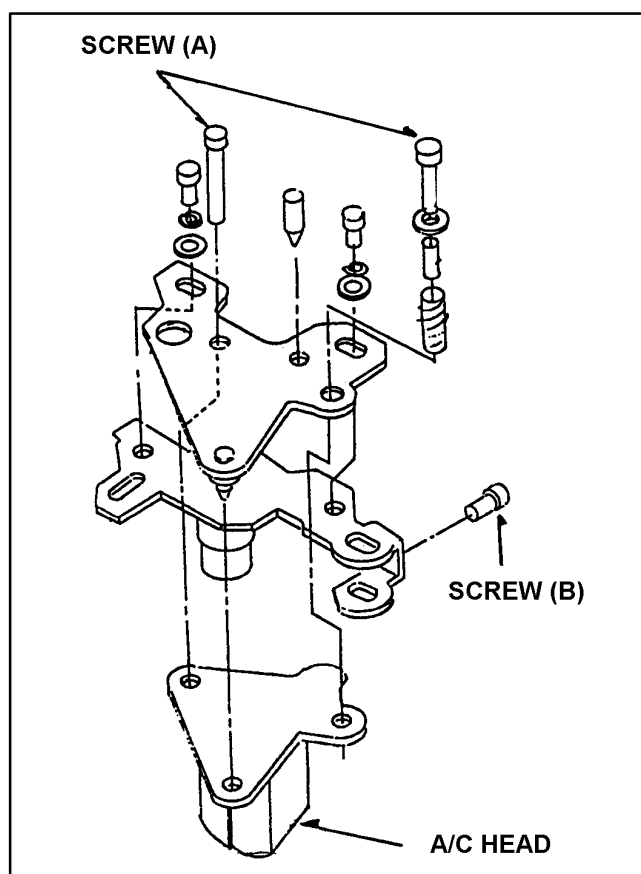

Figure 1-23-2
3. Remove the 2 screws (A) and disconnect the connector (A) on the P.C.Board (B) and connector (C) on the P.C.Board (D), and then remove the A/C Head from the A/C Head Plate as shown in Figure 1-23-2.